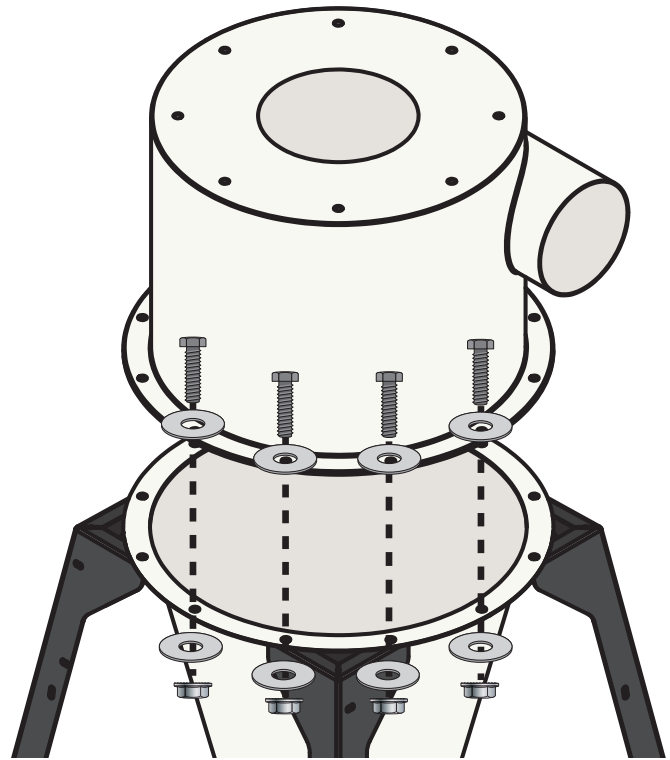

FIG. 4
Once your Cone (D) is aligned with the Stand (R), lift the Barrel (C) onto the Cone, making sure to align the corresponding flange holes. Secure both components to the stand using twelve Hex Head Bolts (Q8), twenty-four Flat Washers (Q4), and twelve Whiz-Lock Nuts (Q9) [FIG 4].